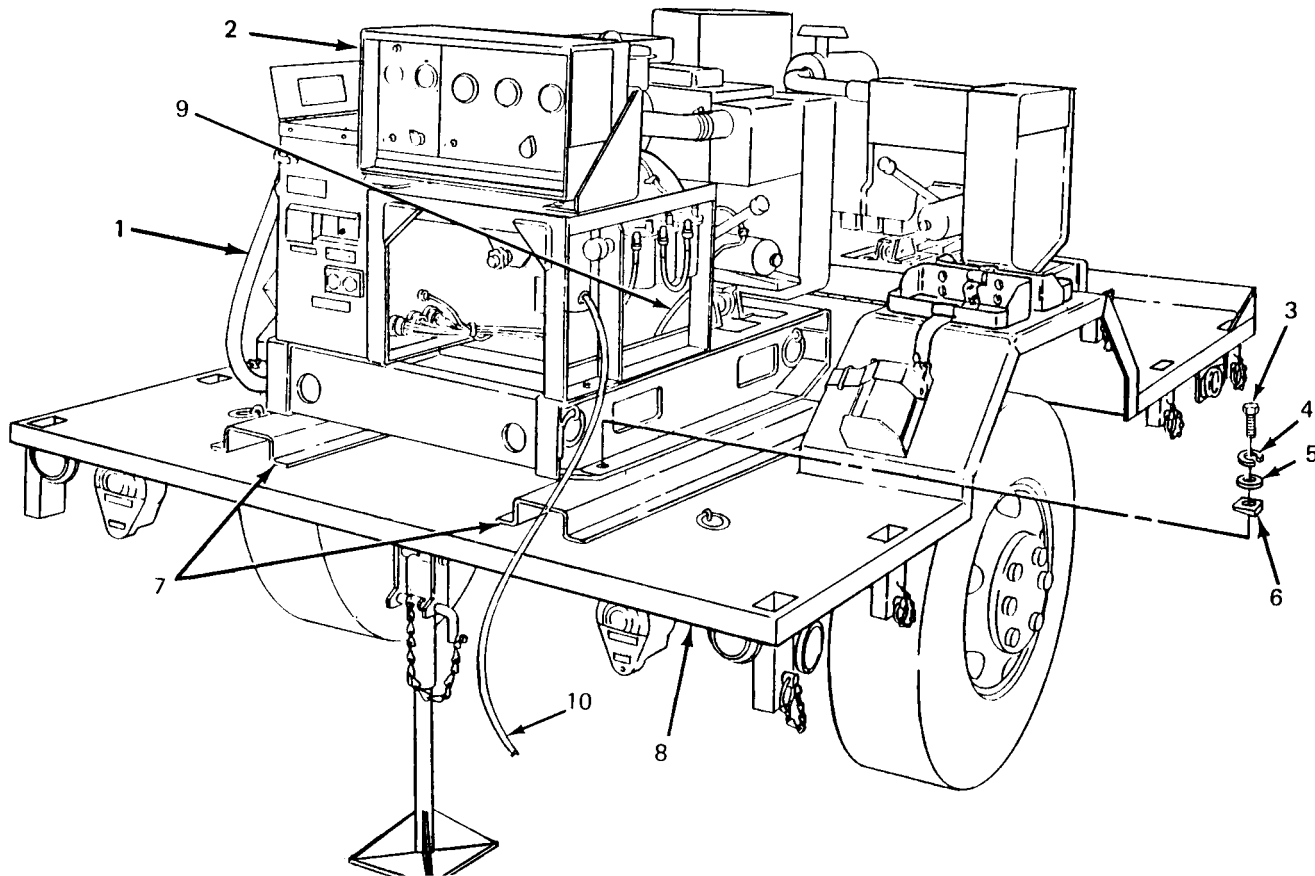

Figure 5-6. Detaching Generator Set from Trailer.
**5-7. Generator Set Replacement.** (See figures 5-6 and 5-7.) Power Plant AN/MJQ-18 has two generator sets. Replacement procedures are identical for both.
- (1) Remove fitted cover (paragraph 3-11, a.(1)).
- (2) Remove six bow assemblies (paragraph 3-11, b.(1)).
- (3) Disconnect all power cables and ground wires (1, figure 5-6) from generator set (2).
- (2) Lower generator set (2, figure 5-6) onto mounting rails (5) on trailer bed (6) and aline mounting holes.
- (3) Insert four screws (3), four lockwashers (4), four flat washers (5) and four beveled washers (6) down through generator set skid into nuts welded to underside of mounting rails (7).
- (4) Position beveled washers (6) so that screw heads are parallel to tops of washers. While holding beveled washers in position, tighten hardware to secure generator set (2) to trailer (8).
- (5) Insert engine oil drain hose (9) through grommet in trailer bed (8).
- (6) Install six bow assemblies (paragraph 3-11, b.(2)).
- (7) Install fitted cover (paragraph 3-11, a.(2)).